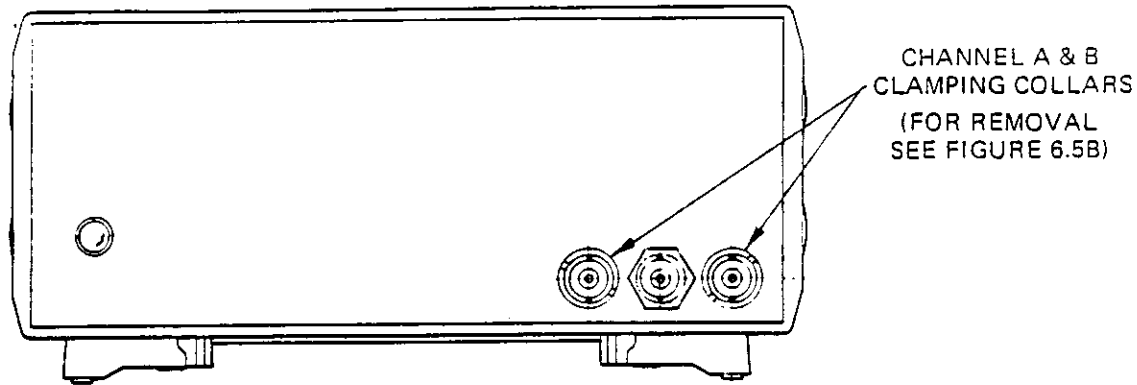

Figure 6.5A - Channel A and B Clamping Collars
- b. Remove the clamping collars from the channel A and B inputs. Use the special spanner available from Racal-Dana (P/N R-14-1586) and turn counterclockwise. Refer to Figures 6.5A and 6.5B for this step